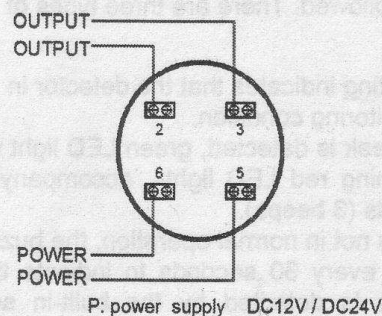

Figure 3
Figure 3 shows the wiring diagram for GD-518 series gas detectors (only GD518-R have relay output).
- (1) All the wires in the base compartment should be flattened and are not touched to any connectors to ensure that the detector head be smoothly fastened to the base.
- (2) When using the jump wires to check the connectivity for each gas detector in the circuit loop (e.g. connecting point 2 and point 3 with a jump wire as shown in Figure 3), be sure to remove all the jump wires before attaching the detector head onto the base.
- (3) Be sure that the components used in the circuit loop as shown in Figure 3 should be coupled up with those components used in the transceiver circuitry of the control panel.
- (4) The base is allowed to be installed within an available wiring box including octagon box (3", 3.5", or 4"), circular box (3") and rectangular box (4" long), without using any other additional mechanical adapters.